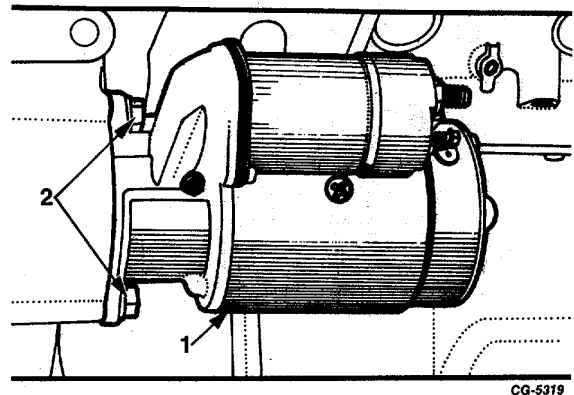

Fig. 26 Starting Motor Removal
- 22. Remove starting motor bolts and lockwashers, Figure 26. Remove starting motor.